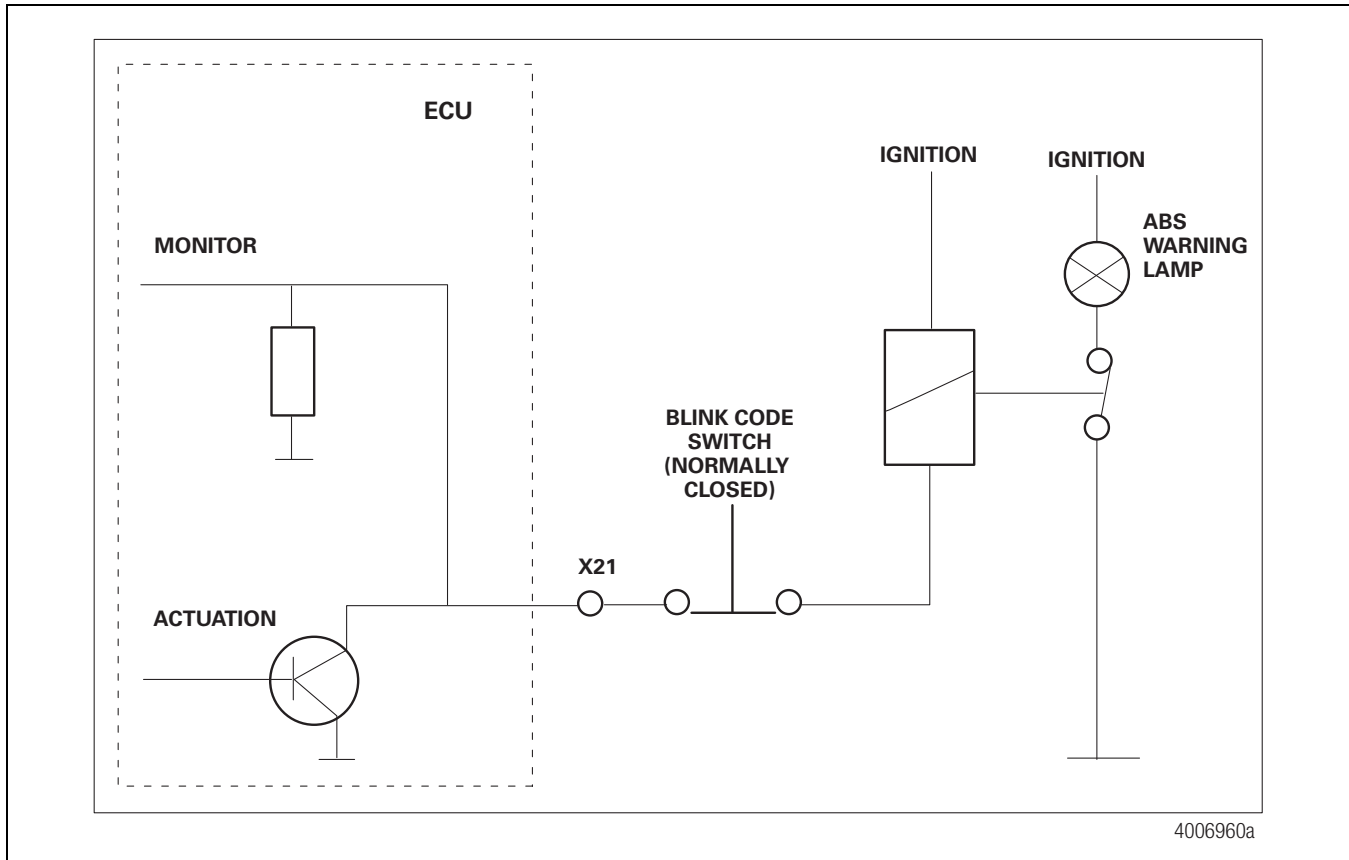

Figure 2.9
1. Wiring Diagram (Figure 2.9)